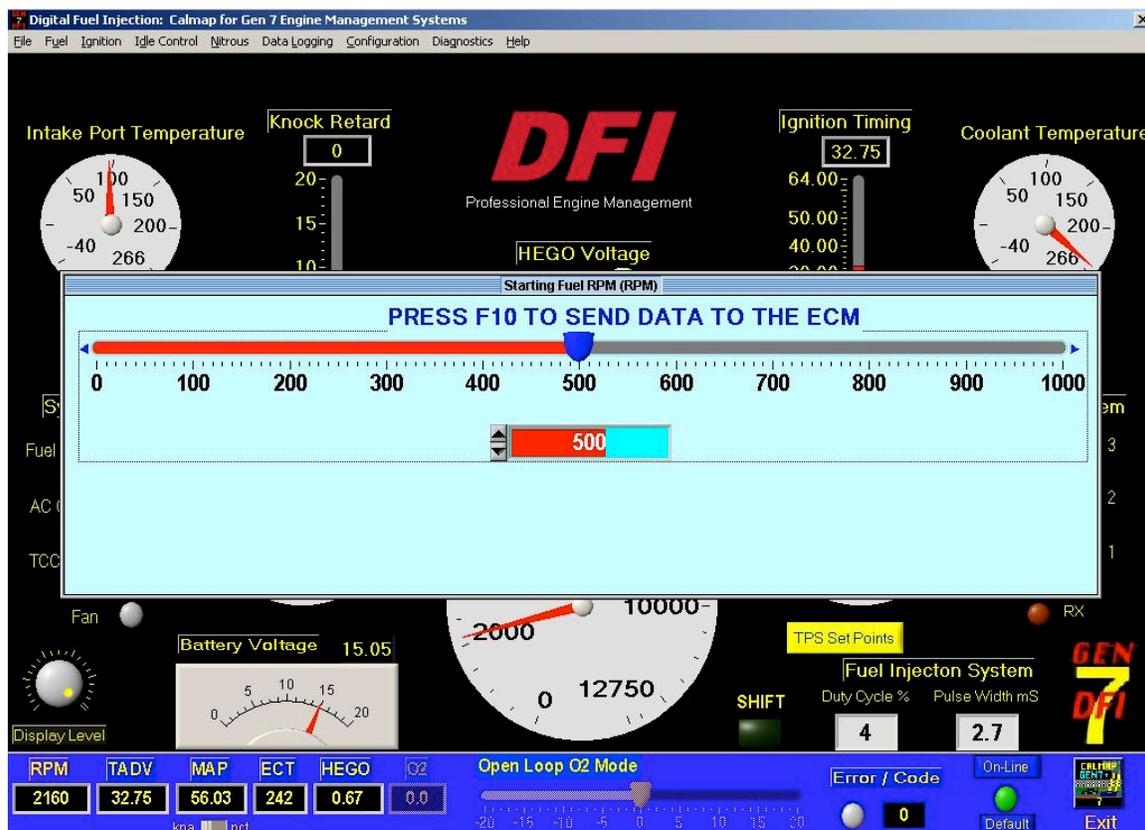

Figure 5: The Single Cell Table Editor Screen
Smaller data tables are displayed as single numeric values, which are changed by using the Table Editing Screen, displayed in Figure 5.
- Enter the new data value in the numeric edit box (highlighted in red in Figure 5), press the Enter key, then press the F10 key to send the changes to the ECM.